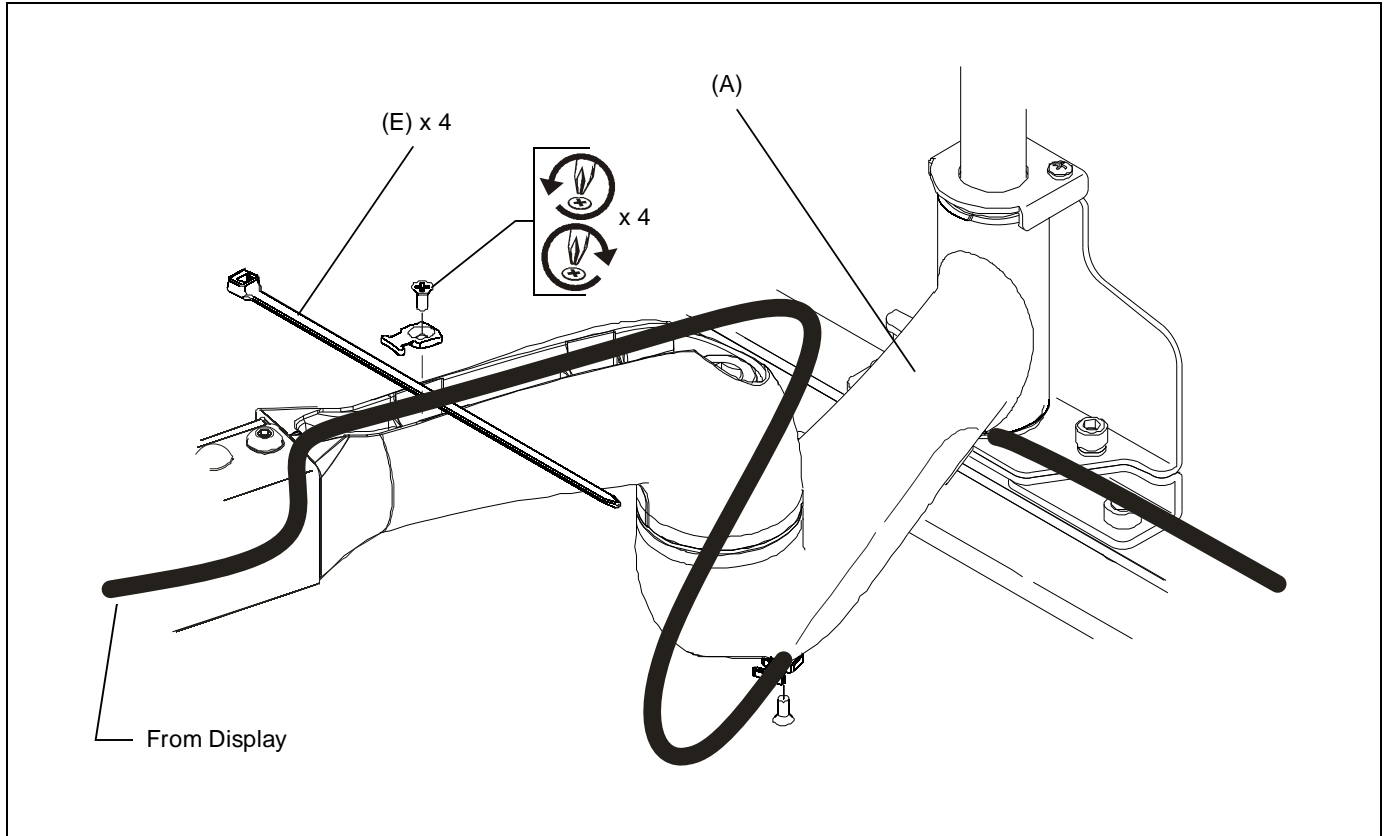

Figure 8
1. Loosen front and rear cable clamps on top arm. (See Figure 8)
2. Thread cable ties (E) under cable clamps and secure clamps to top arm. (See Figure 8)
3. Route power/audio/video cables through the cable channel in top arm (See Figure 8), allowing sufficient slack in cables for Left/Right movement of display and swing arm and also swing arm extension and retraction.
4. Secure cables to top arm using two cable ties (E).